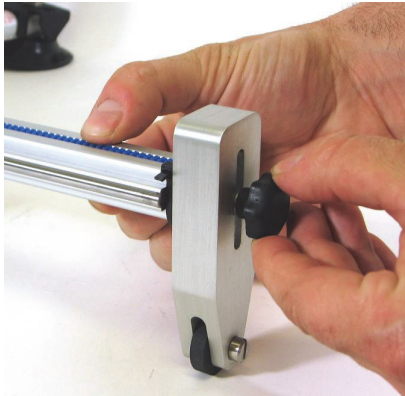

Figure 2-39 Tightening the thumbscrew on the Y-axis support
- c) When the Y-axis is level, tighten the thumbscrew (see Figure 2-39 on page 53).